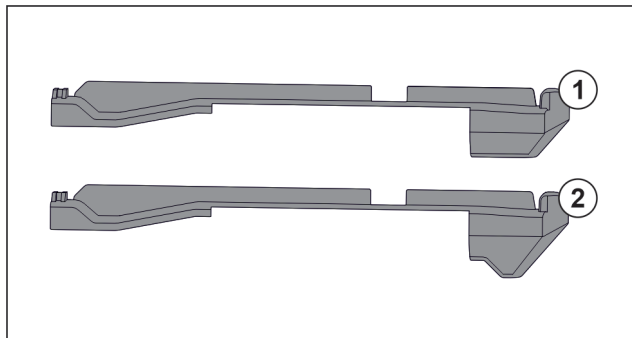

Fig. 84 Comparing attachments
There are two different attachments in the appliance. The attachment above the lowest drawer Fig. 84 (2) has a three-cornered edge. All other attachments Fig. 84 (1) have a straight edge.
- Fit attachment Fig. 84 (2) with the three-cornered edge above the lowest drawer.
- Fit attachment Fig. 84 (1) with straight edge in all other positions.